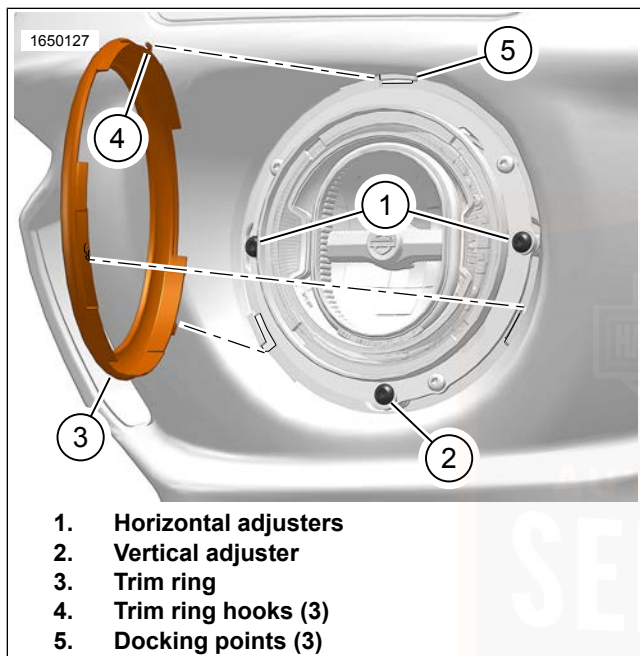

Figure 83. Headlamp Adjusters: FXLRST
1. See Figure 83. Rotate trim ring (3) counterclockwise to disengage trim ring hooks (4) from docking points (5) and remove.
2. Rotate horizontal adjustment screw (1). Adjust headlamp horizontally to direct light beam straight ahead.
3. Rotate vertical adjustment screw (2). Adjust headlamp vertically until beam centers on horizontal line.
- a. Align trim ring hooks (4) with docking points (5).
- b. Rotate trim ring (3) clockwise into position.